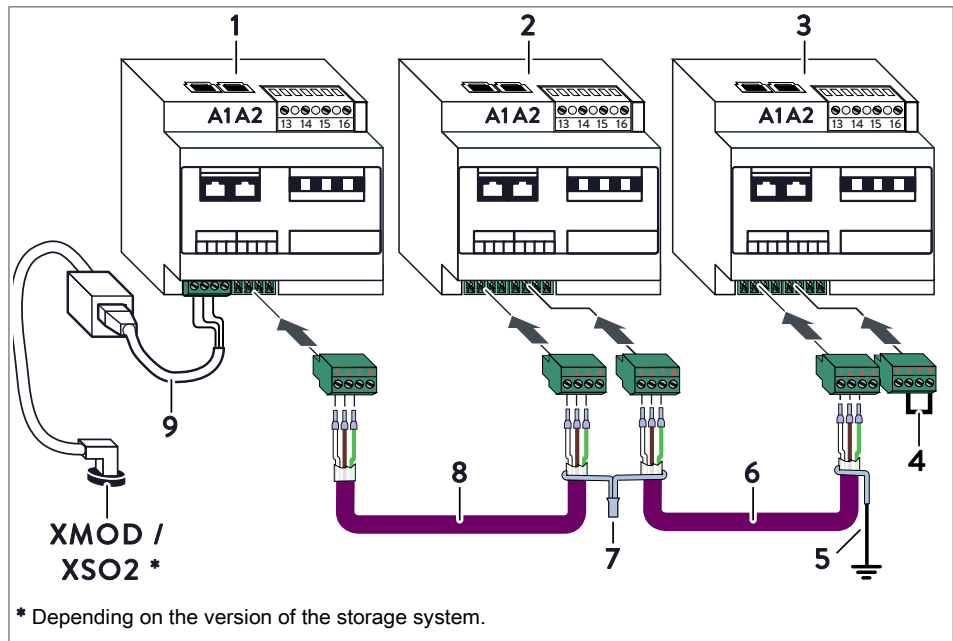

Figure 20: Example for the connection of three WM271 power meters via communication line
- ▶ Connect the power meters as shown in figure 20.